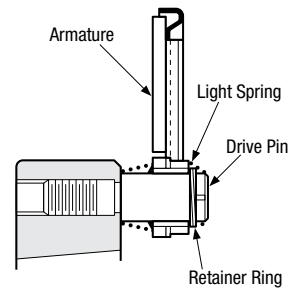

Figure 4
7. Assemble the light spring over the pin. The large diameter of the spring should be against the armature. (Figure 4)